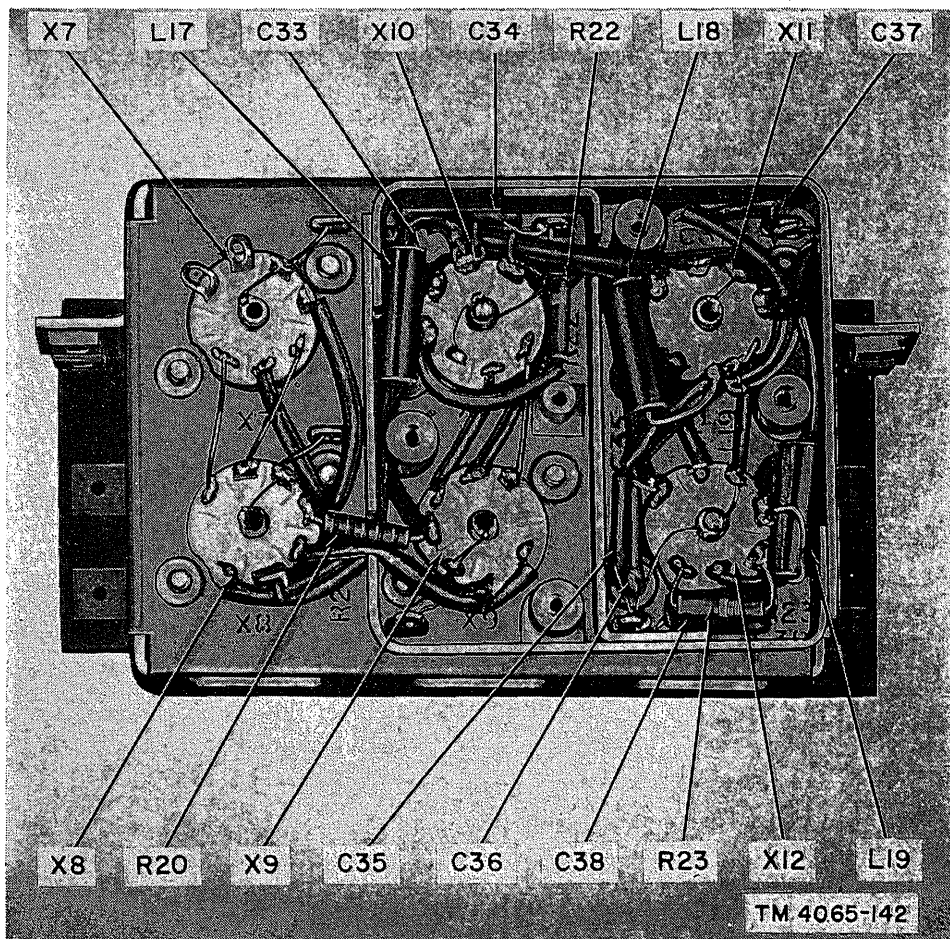

Figure 38. If. shelf with shield removed.
- (6) When all six tubes have been inserted into the sockets on the boxes, install the tube clamp and tighten the two holding screws.
- (7) Install the cover plate and tighten its two holding screws.
a. Removal. Remove the four screws that hold the cover plate in place on the back of the chassis (fig. 30) and remove the plate. Remove the individual cans by pulling straight out. If necessary, pry under the base with a small screwdriver. The if. shelf with shield removed is shown on figure 38.